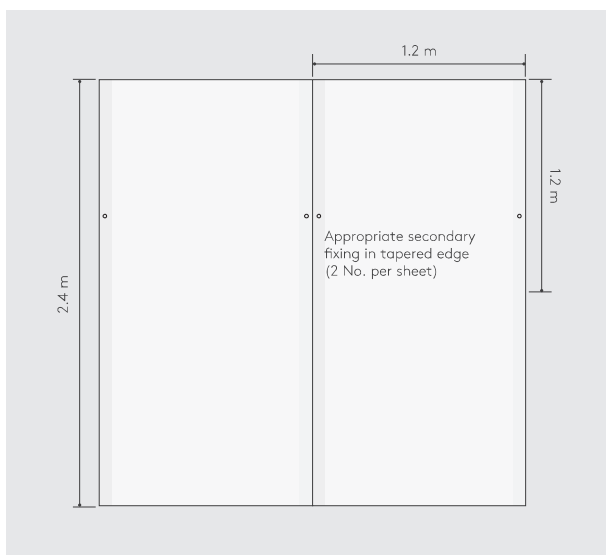

Figure 7 - Appropriate Secondary Fixing Pattern for Acrylic Sealant / PU Foam Adhesive Bonding
**Figure 6 - Appropriate Secondary Fixing Pattern for Drywall Adhesive Dab Bonding Using 6 Additional Fixings (See Figure 7 for the Appropriate Secondary Fixing Pattern when using 2 Additional Fixings)**
- These are normally applied at a rate of 2 No. per sheet, 15 mm in from the edge of the sheet, after the adhesive has set (see Figure 7).